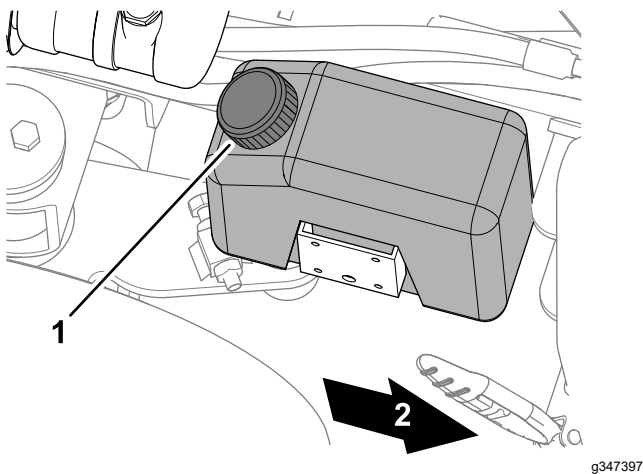

Figure 13
2. Remove the cap from the wash tank (Figure 13).
4. Install the cap to the wash tank (Figure 13).